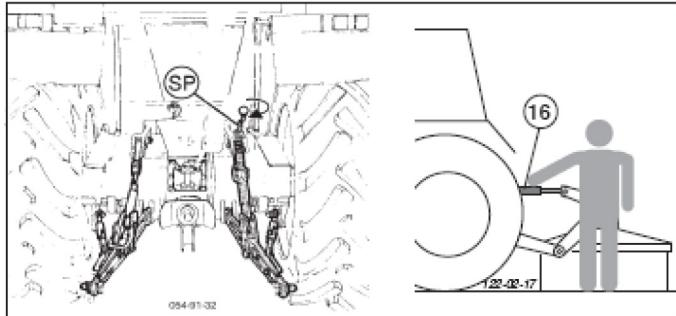

FIGURE 1
- Lower the machine and set the mower on the ground (Figure 1)